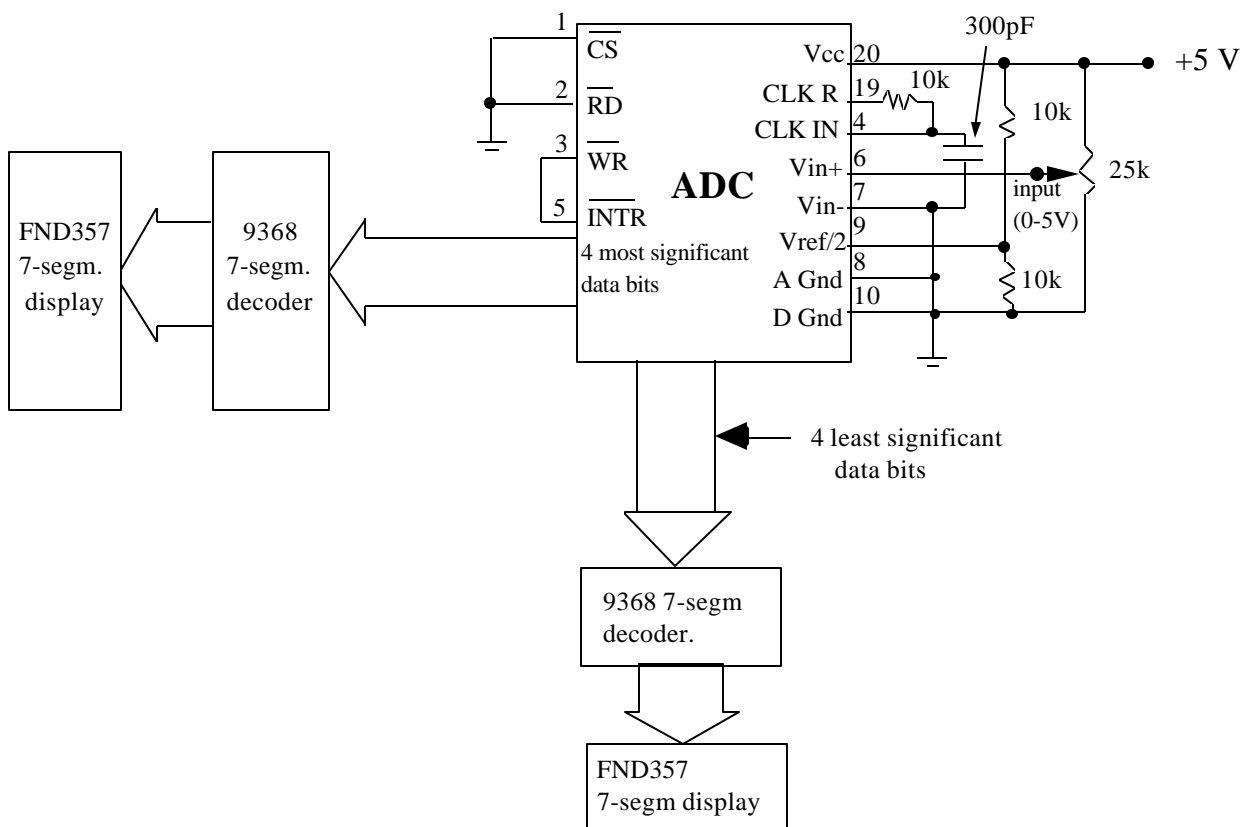

Figure 12.3 Circuit of a 2-digit DVM
12.1 We can use the ADC to build a simple 2-digit DVM (Figure 12.3). Use the 25k potentiometer and a DC input signal between 0 and 5 V.